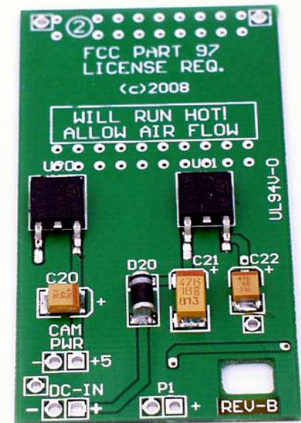

Figure 2, Side ②
- 1.2 The top and bottom sides of the two PCB's are labeled with a circled number (e.g., ① ② ③ ④). The instructions will reference the numbered side that is being assembled.
2 SIDE ②, COMPONENTS: See Figure 2.